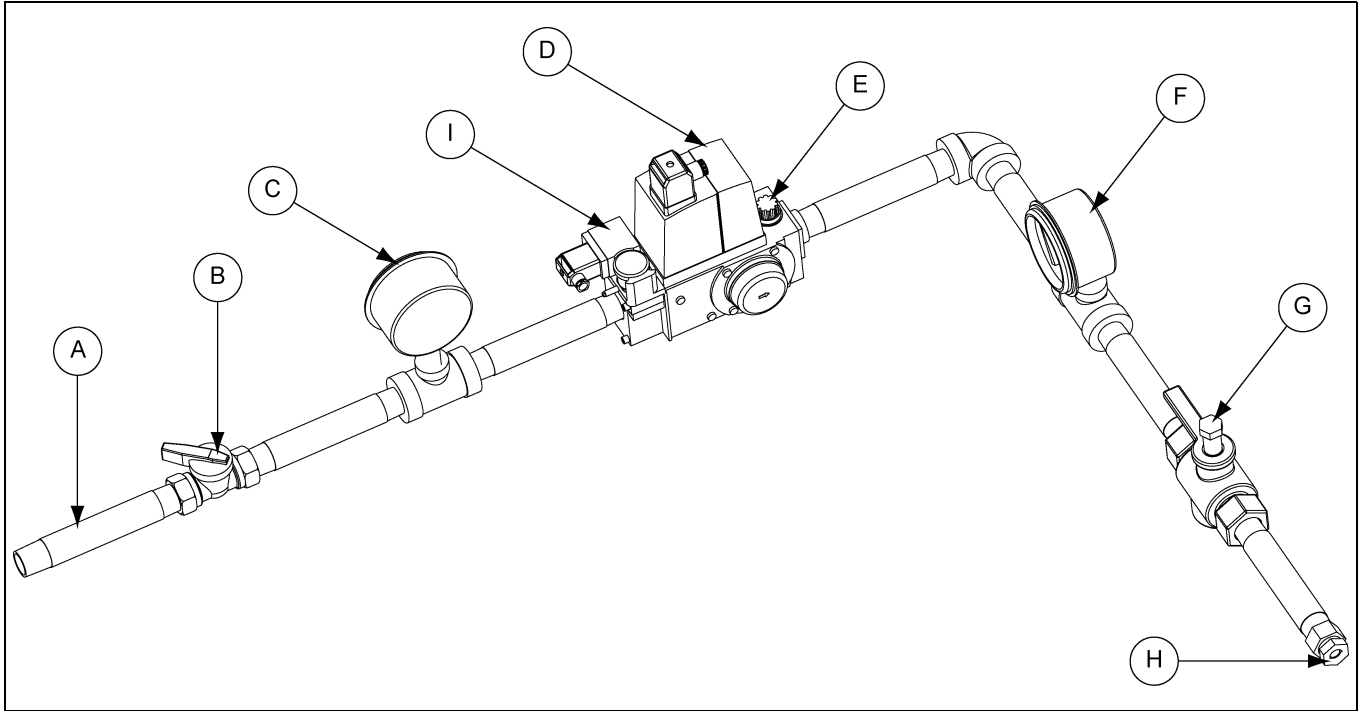

Figure 3D
3. Pressure set with pilot flow adjuster on pilot valve (See Figure 3D on Page 28) read at pilot gauge. (See Figure 3D on Page 28).
- c. Close pilot line valve. (See Figure 3D on Page 28.)